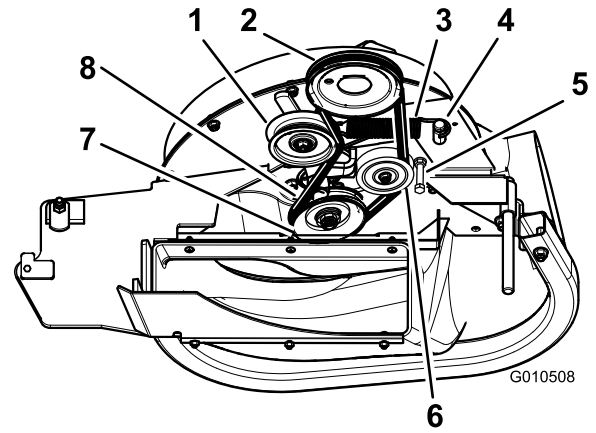

Figure 13
- For 48- and 52-inch mowers, loosen the belt guide (Figure 13).
- Install the belt around the blower pulley and fixed-idler pulley (Figure 13).